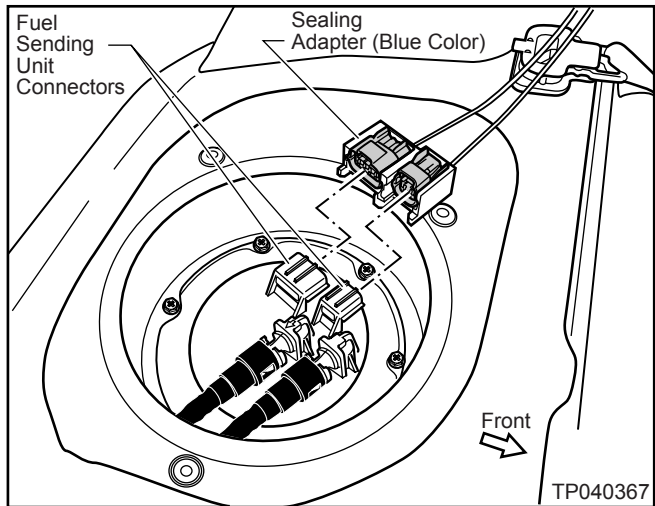

Figure 33
1. Install the Sealing Adapter (blue color adapter) onto the Fuel Sending Unit Connectors until it clicks (locks) in place. See Figure 33.